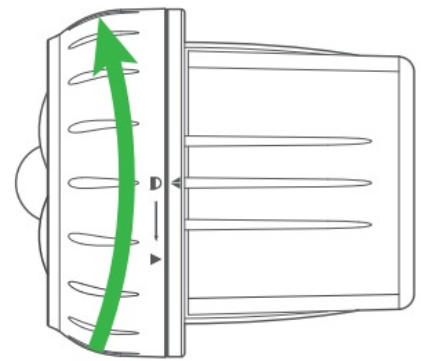

Figure 3
3. Align the ▲ marks then turn the front cover clockwise to the lock position ▤ to secure the battery compartment (see Figure 3).
3. Within 25 seconds, power up the spotlight by turning the front cover clockwise to the lock position  to secure the battery compartment (see Figure 3 on previous page). The Sensor Channel melody sounds with the corresponding Sensor Channel LED indicator blinking on the Indoor Alarm Receiver to confirm successful pairing.